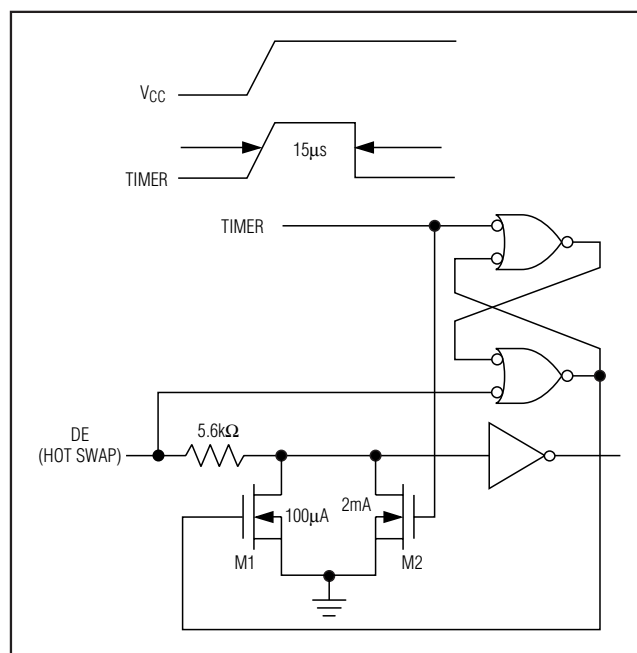

Figure 10. Simplified Structure of the Driver Enable Pin (DE)
At the driver-enable input (DE), there are two NMOS devices, M1 and M2 (Figure 10). When V_{CC} ramps from zero, an internal $15\mu\text{s}$ timer turns on M2 and sets the SR latch, which also turns on M1. Transistors M2, a 2mA current sink, and M1, a $100\mu\text{A}$ current sink, pull DE to GND through a $5.6\text{k}\Omega$ resistor. M2 pulls DE to the disabled state against an external parasitic capacitance up to 100pF that may drive DE high. After $15\mu\text{s}$, the timer deactivates M2 while M1 remains on, holding DE low against three-state leakage currents that may drive DE high. M1 remains on until an external current source overcomes the required input current. At this time, the SR latch resets M1 and turns off. When M1 turns off, DE reverts to a standard, high-impedance CMOS input. Whenever V_{CC} drops below 1V , the input is reset.